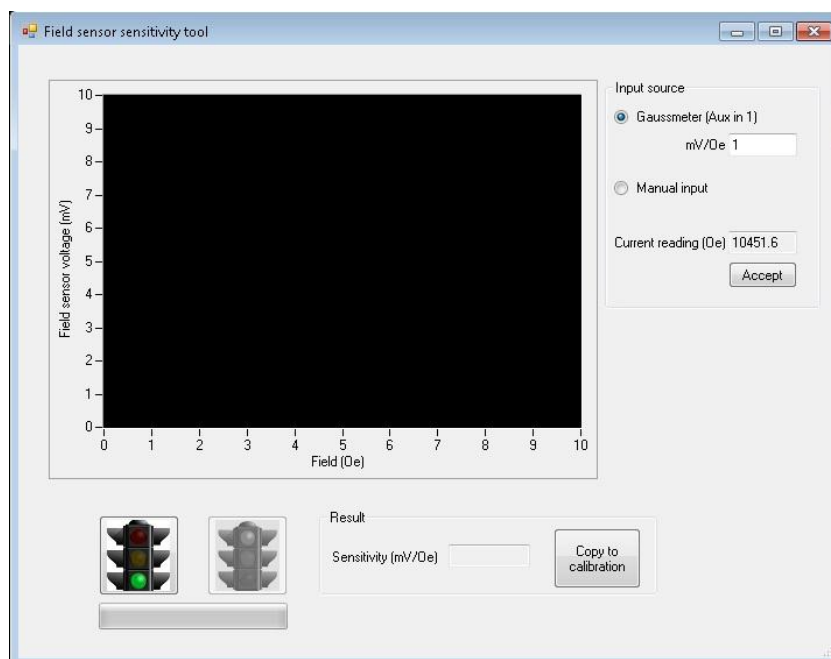

Figure 27: The Field sensor sensitivity tool window
Check that the range of fields that can be generated by this electromagnet is correctly entered into the Range text boxes (this is the range over which the calibration will be performed). Ensure that the electromagnet power supplies are switched on and click Launch (X) in the Sensitivity panel to open the Field sensor sensitivity tool window (see Figure 27).